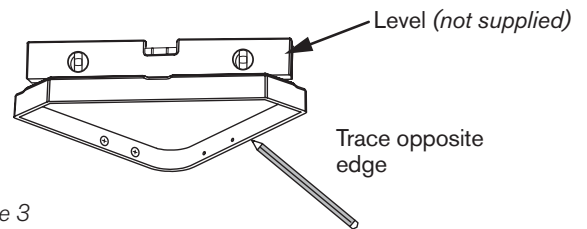

Figure 3
3. Hold the dish level and trace the opposite edge (*Figure 3*).